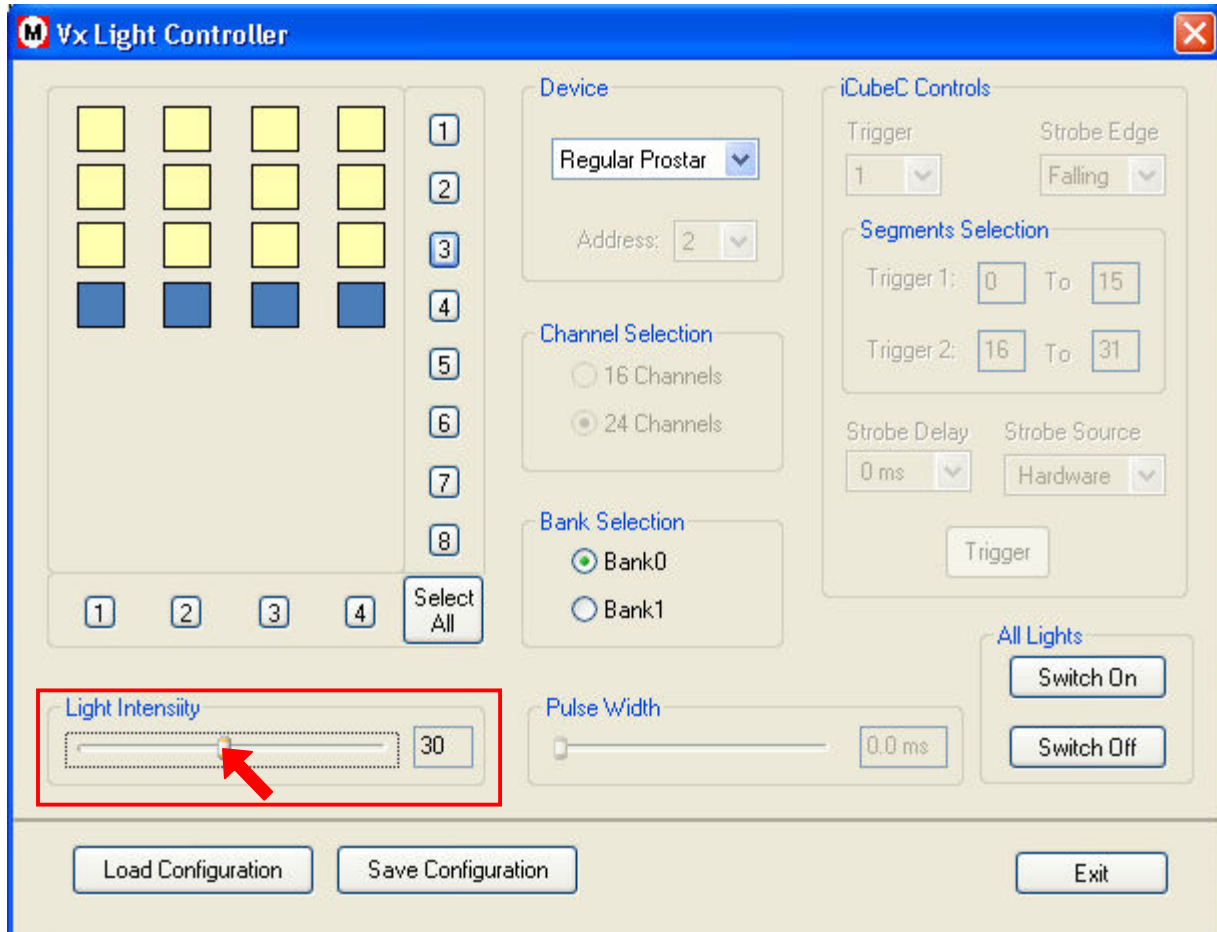

Fig 4.13: Light Intensity value set to 30 for all channels of controller 4
- The light intensity required to be set could be obtained by moving the cursor between minimum and maximum value as shown in figure 4.13.